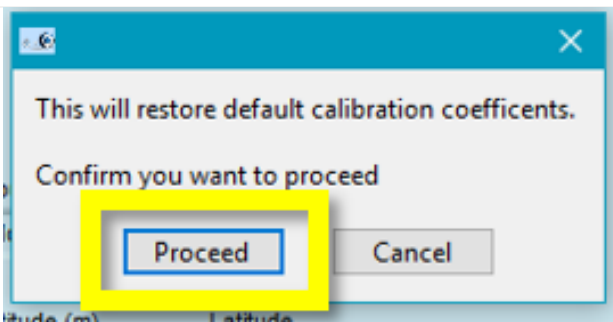

Figure 178. Click "Proceed" to Reset Sensor Cal Coefficients
**STEP 3** | A pop-up window will appear stating: "This will restore default calibration coefficients". Select "**Proceed**" to conduct a factory reset on the sensor (Figure 178).